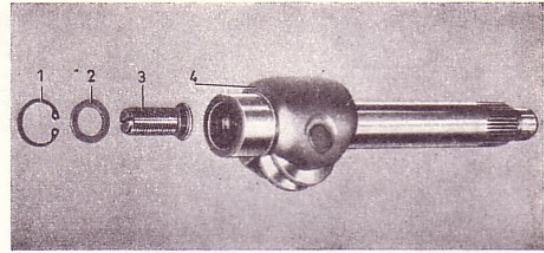

Fig. 37. Pitman arm shaft.
5. Fit the adjusting screw, washer, and circlip on the pitman arm shaft, see Fig. 37. The axial clearance of the adjusting screw should not exceed 0.05 mm (0.002"). The clearance is reduced by replacing the washer (2) with a thicker one. The adjusting screw should, however, be easy to turn after fitting.